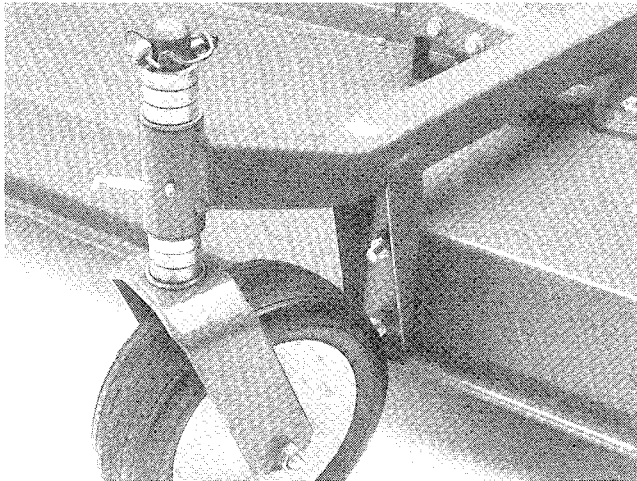
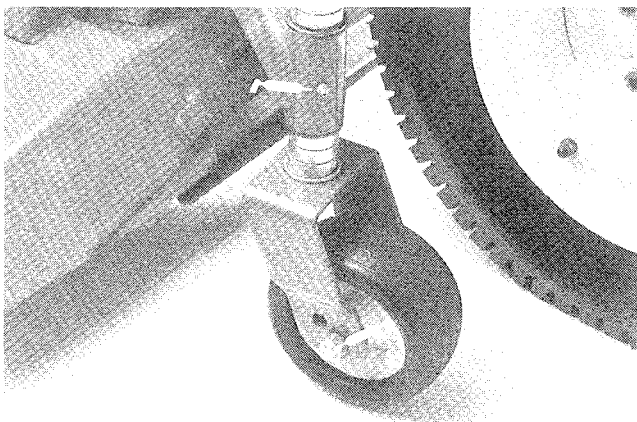
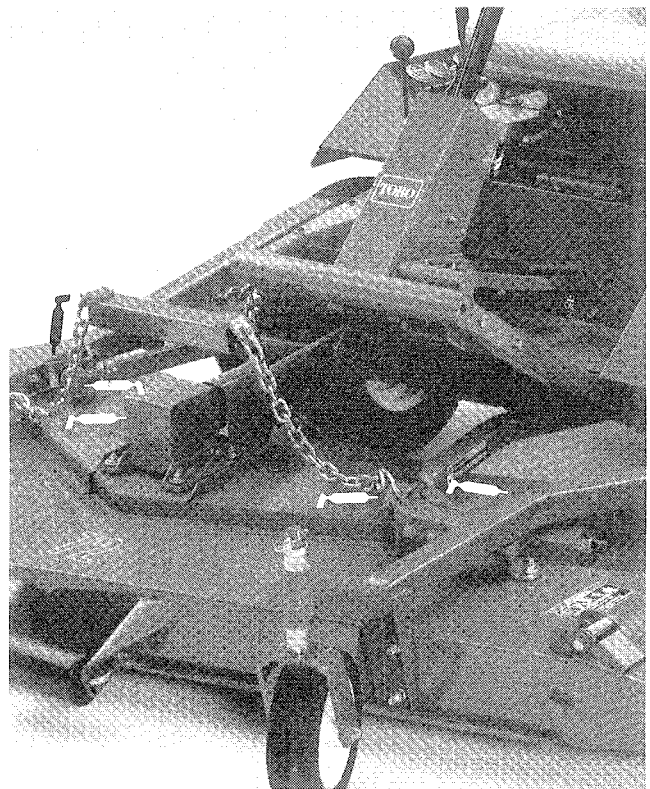

Figure 17
Figure 18
Figure 20
1. The cutting unit has bearings and bushings that must be lubricated, and these lubrication points are: caster spindle bushings (Fig. 17 and 18); caster wheel bearings (Fig. 18 and 19); blade spindle bearings (Fig. 20); right and left push arm ball joints (Fig. 20).